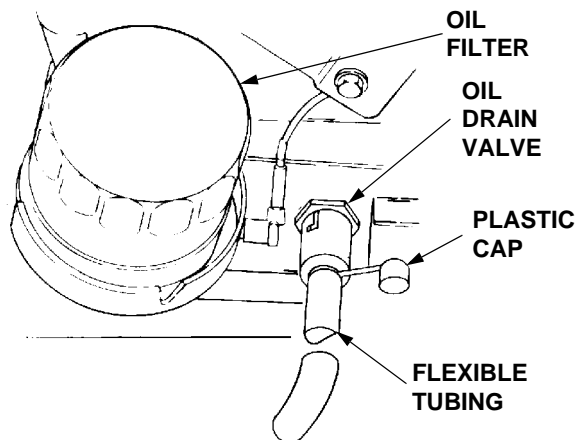

Figure 19
Regularly checking and maintaining the engine oil level in the crankcase cannot be overemphasized. Close monitoring of the oil level during the first 10 hours of operation is especially important. Referring to Figure 19, check the oil level **BEFORE EACH USE** as follows:
The oil filter is located behind the left side panel and is mounted on the engine (See Figure 19).
3. Unseat the plastic dust cap from the engine oil drain valve. To prevent loss of the cap, do not remove the cap's retaining ring from the drain valve (Refer to Figure 19). Remove the dipstick.